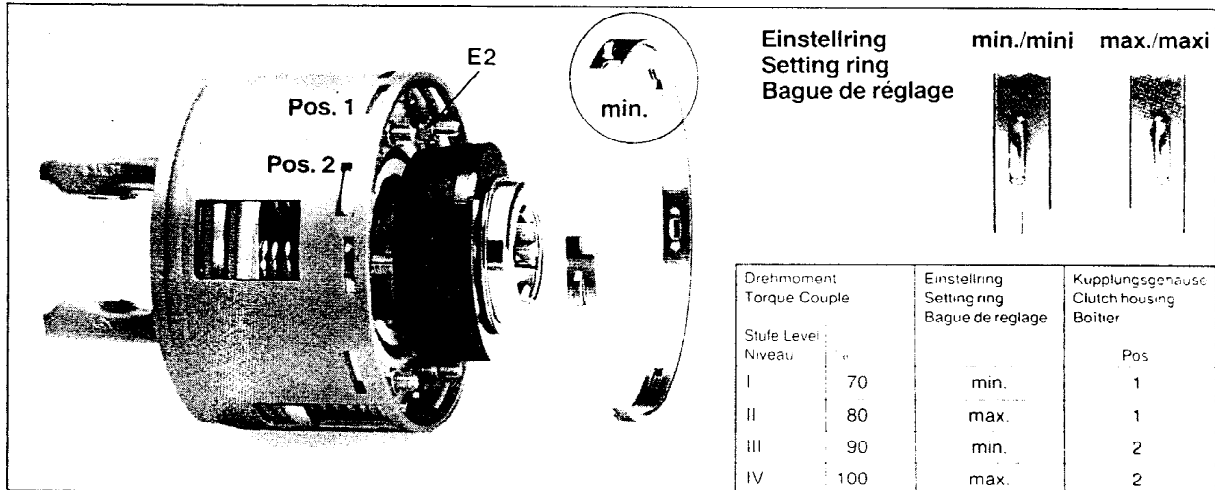

Fig. 3
2. The clutch housing incorporates two (Fig. 3) locating positions for the setting ring (Pos. 1 and Pos. 2) which are situated at different levels.
For each power pack, four torque settings are possible (see Fig. 3 table).